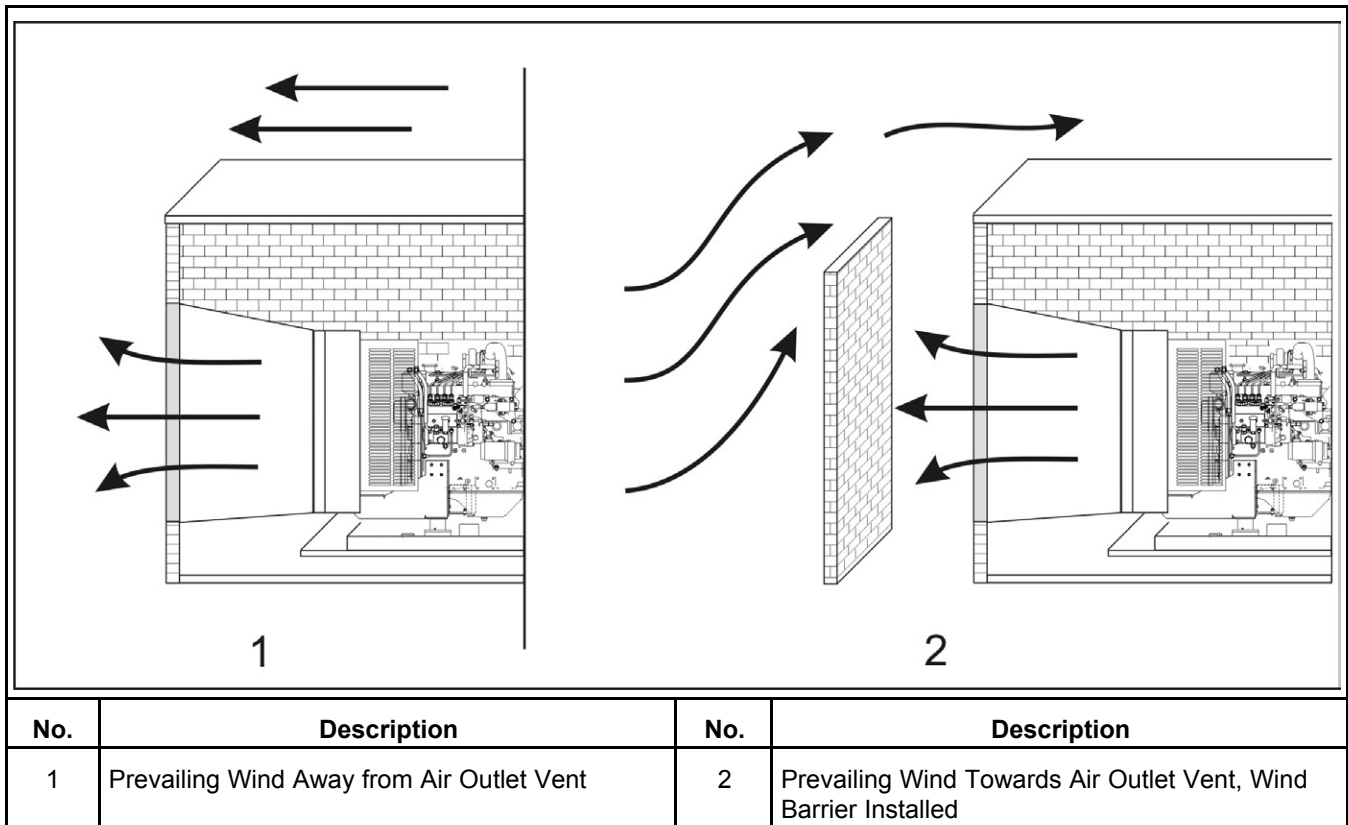

FIGURE 13. WIND BARRIER
3. Wind will restrict free airflow if it blows directly into the air outlet vent. Locate the outlet vent so the effects of wind are eliminated, or if the outlet vent cannot be located as mentioned, install a wind barrier. See Figure 13.